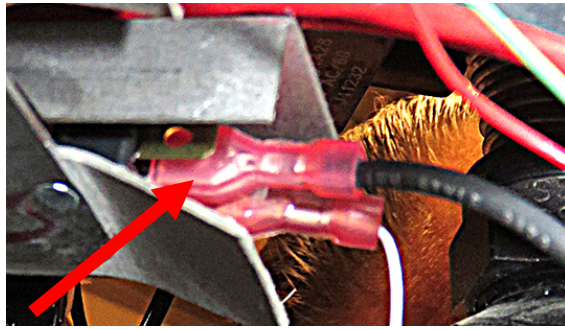

Figure 13
16. Attach the female end of the harness, to the center male terminal of the switch, where the plug was removed from, in step 14 (see Figure 13).